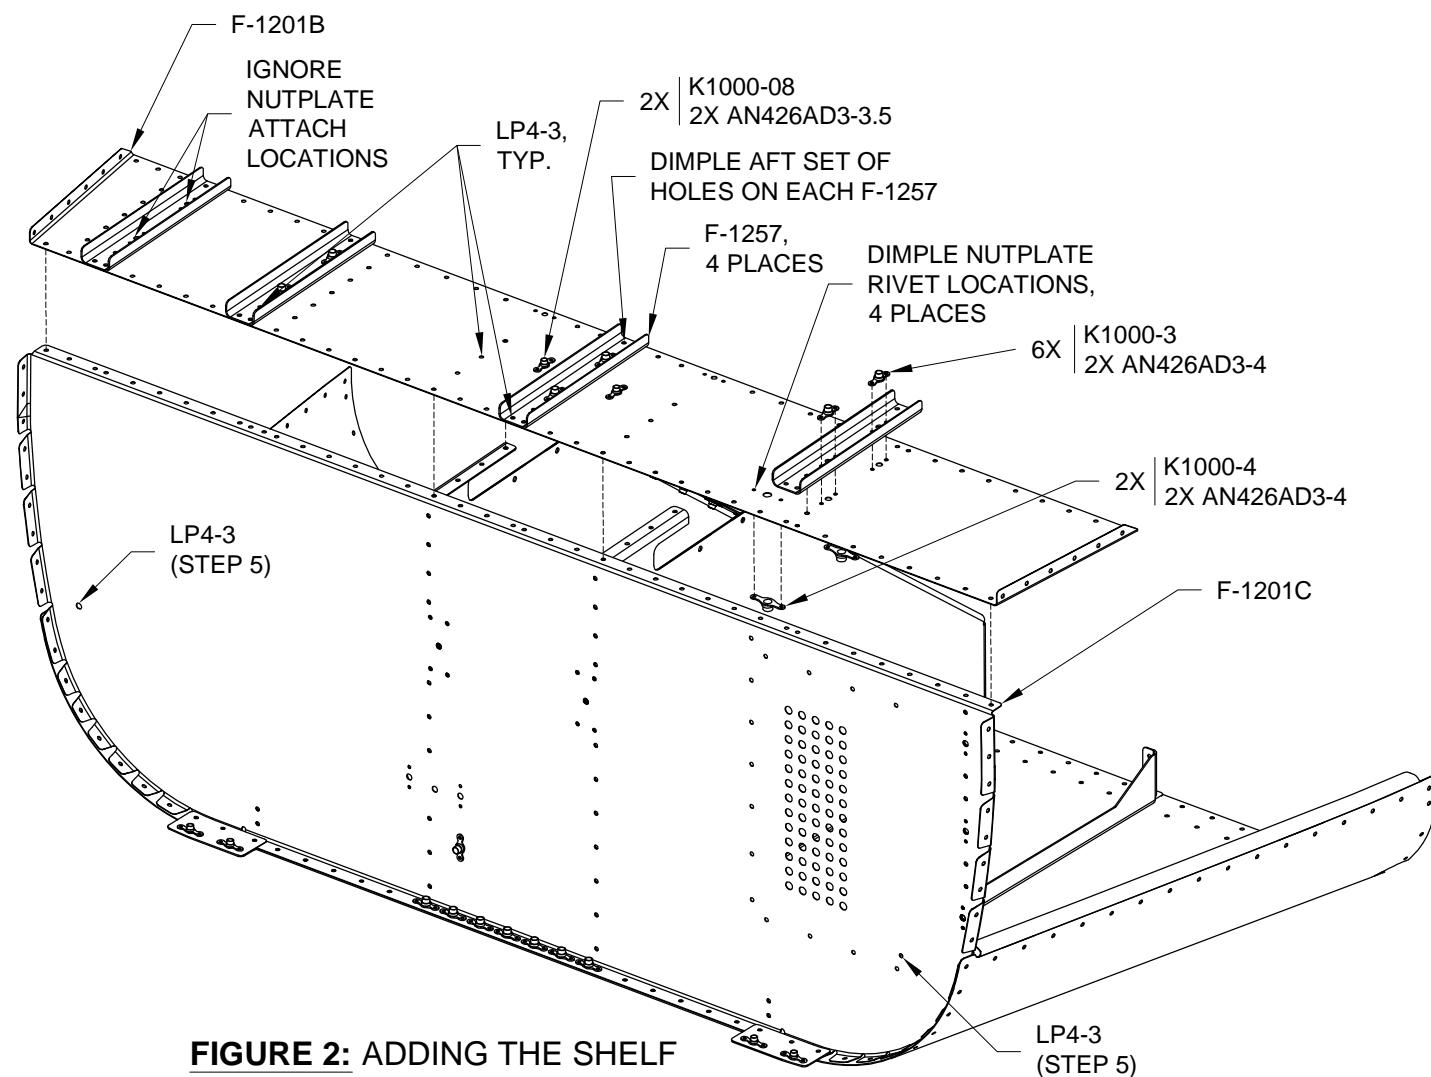

FIGURE 2: ADDING THE SHELF
Step 4: Smear a thin layer of MC-240-B1/2 Tank Sealant on the top flanges of the F-1201C Firewall Bottom and F-1217A-L and -R Tunnel Ribs. Cleco then rivet the F-1201B Firewall Shelf and F-1257 Rudder Pedal Support Channels to the Fwd Lwr Fuse Assembly per the call outs in Figure 2.
Step 5: Fill the tooling holes on the F-1201C Firewall Bottom with a blind rivets. See Figure 2.